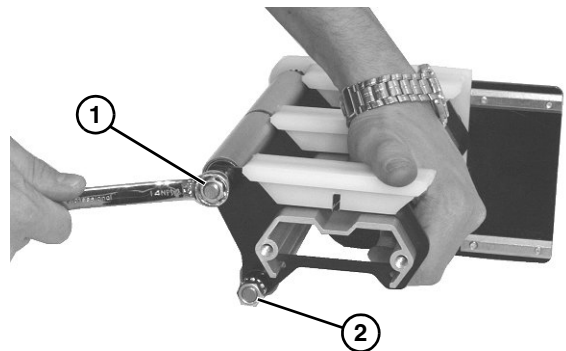

Figure 56
5. Remove upper nut (**Figure 56, item 1**) and spacer from end of axle shaft assembly.
6. Remove lower nut (**Figure 56, item 2**) and spacer from lower axle shaft assembly.